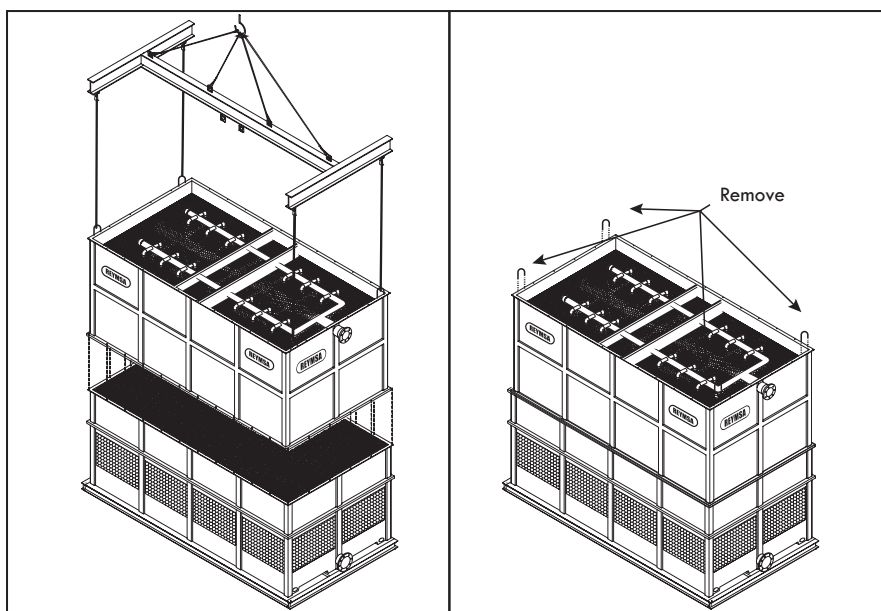

Figure A-50: Upper Body section installation for an RTG-D or RTG-E models.
- J. Assemble the body section (Upper Body section for RTG-D or RTG-E) with the basin section (Lower Body section for RTG-D or RTG-E). The body section comes assembled with u-bolts for lifting; then using a crane assemble both parts, use a drift pin to align bolt holes as the sections are being set (See figure A-50). Make sure that the hot water inlet, and the cold water outlet are on the same side of the Tower when assembled.
- K. After installing the body, remove the U-bolts before installing the Fan Deck (see Figure A-50).